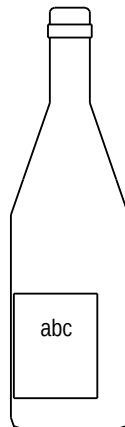

fig. 12
- If the container is like in fig. 12 put the group 1 far from the front side and work like already said.